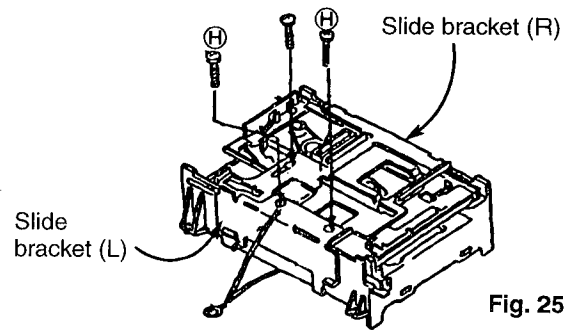

Fig. 25
(See Fig. 25)
2. Remove both of the slide brackets (L) and (R). (See Fig. 25)